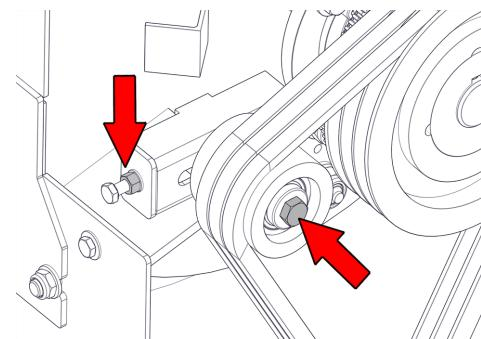

Figure 24 - Tensioner Pulley Assembly
2. Use a 19 mm spanner to loosen the bolt in the centre of the tensioner pulley until the pulley is able to slide with minimal wobble (Figure 24, Item 1).
3. Turn the nut on the end of the tensioner pulley slider until the correct belt tension is achieved (Figure 24, Item 2). (Refer to Section 6.11 "V-Belt Tensioning Procedure" on page 46.)